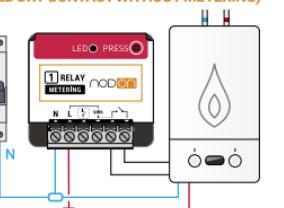

Figure 2
- Wire the Zigbee Multifunction Relay Switch with metering following the diagram figure 2, making sure to connect the two wires which controls the ambient thermostat (see your boiler user guide).